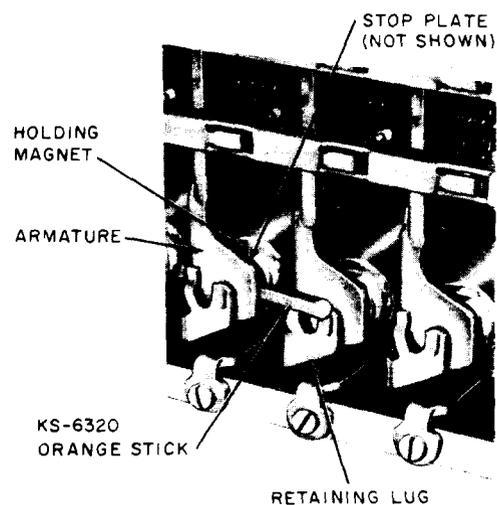

Fig. 31—Blocking 324-, 325-, 328-, 334-, and 338-Type Switch Holding Magnets - Nonoperated
(1) Using a 1-1/2 inch length cut from the end of a KS-6320 orange stick, block the holding magnet nonoperated by inserting the flat end of the orange stick between the core and the holding armature with the other end of the stick resting on the retaining lug of the adjacent holding magnet stop bracket, as shown in Fig. 31. When blocking the holding magnet at the right-hand side of the switch nonoperated, place the flat part of the orange stick between the core and the holding armature at an angle of approximately 45 degrees above horizontal.
- (1) Block the holding magnet nonoperated by inserting the 768A blocking tool between the core and the holding armature, similar to the method used in Fig. 31.